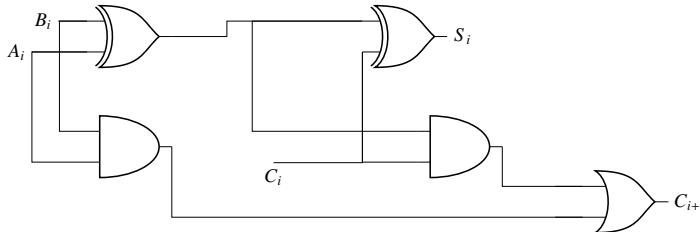

Fig. 3.25: Full Adder
41. Fig. 3.25 shows the i th full-adder block of a binary adder circuit. C_i is the input carry and C_{i+1} is the output carry of the circuit. Assume that each logic gate has a delay of 2 nanosecond, with no additional time delay due to the interconnecting wires. If the inputs A_i, B_i ; are available and stable throughout the carry propagation, the maximum time taken for an input C_i , to produce a steady-state output C_{i+1} is _____ nanosecond. (GATE-IN2019,22)